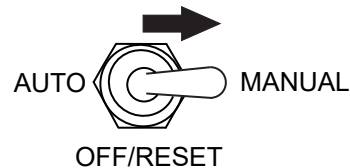

Figure 102. Auto Start/Stop Switch (Manual Position)
- Place the Auto Start/Stop Switch (Figure 102) in the "Manual" position to start the engine.